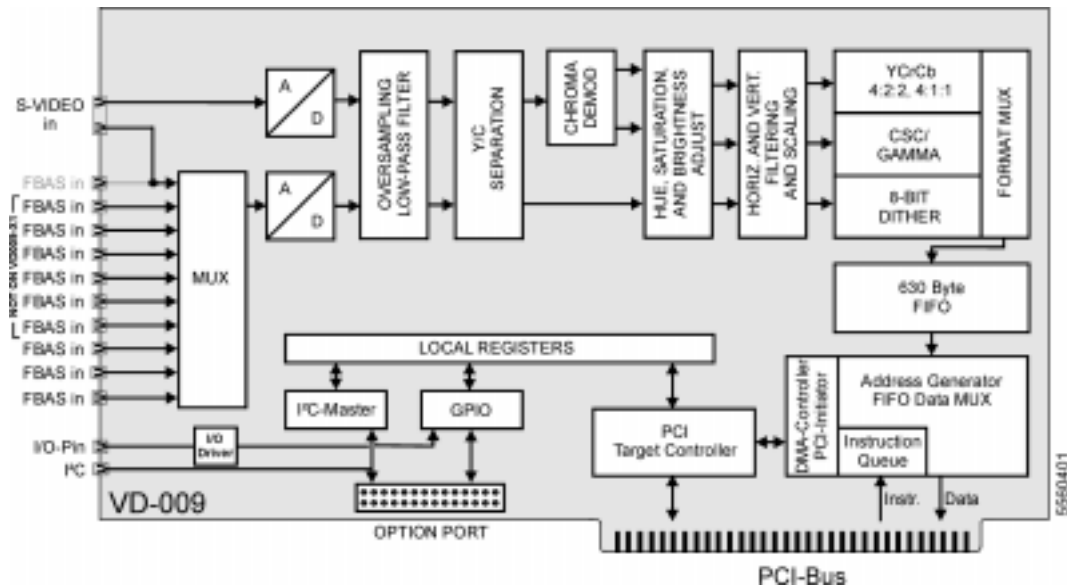

Figure 38: Block diagram
Figure 38 shows the block diagram of the eGrabber-4plus. The composite input signal is connected to a 9:1-video multiplexer, which is controlled via the PCI-Bus. The following A/D-converter digitizes this signal. All image sources can be used, which provide a color video signal corresponding to the CCIR- standard „PAL (B,D,G,H,I)“, „NTSC (M)“.